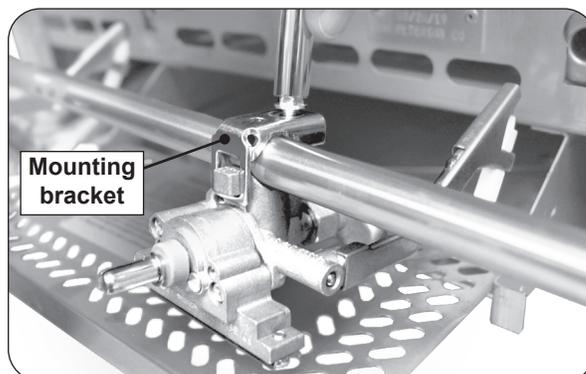

Fig. 2-3 Secure new valve to manifold
- Secure the valve using the included mounting bracket and screw using a $\frac{5}{16}$ " hex nut driver (see Fig. 2-3).